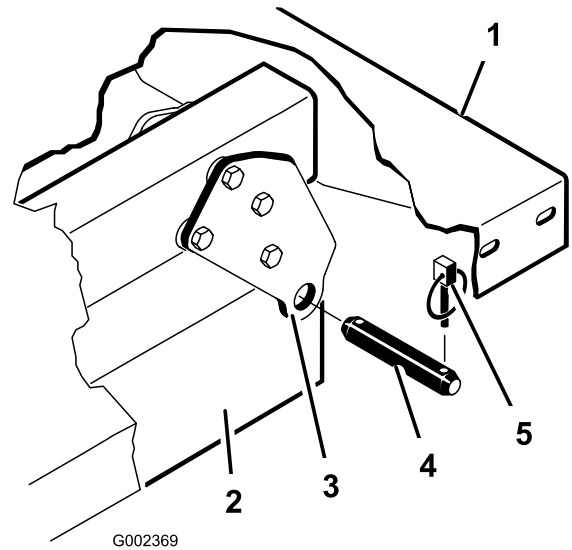

Figure 33
**Note:** Ensure that the rear pivot plates are bolted to the bed frame/channel so that lower end angles to the rear (Figure 33).